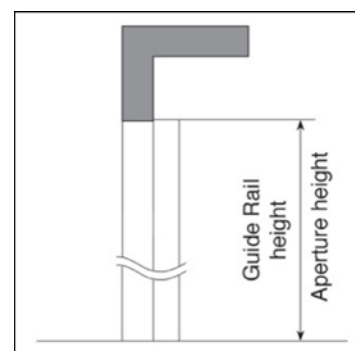

Fig 6
A. Where headroom of 205mm / 300mm or more is available guide rail length equals aperture height as shown in **Fig 6**.